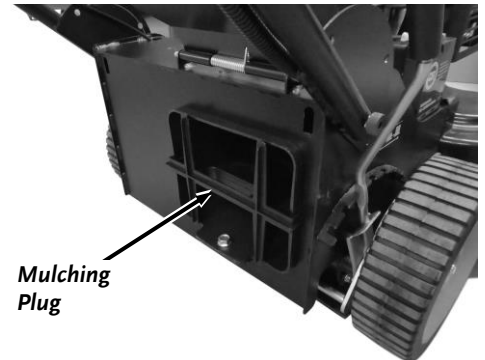

Figure 15
1. Remove the Mulching Plug (**Figure 15**).
2. Install the Mulching Plug (**Figure 15**).
1. Install the Mulching Plug (**Figure 15**).